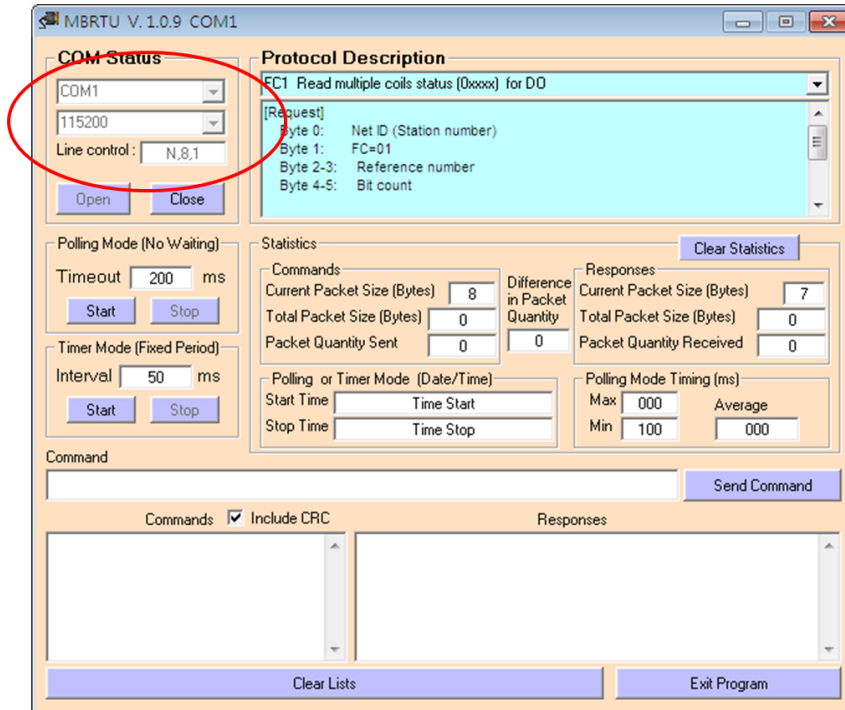

Figure 41 MBRTU Utility
-- Start the test utility “MBRTU” (Figure 41) on the PC.